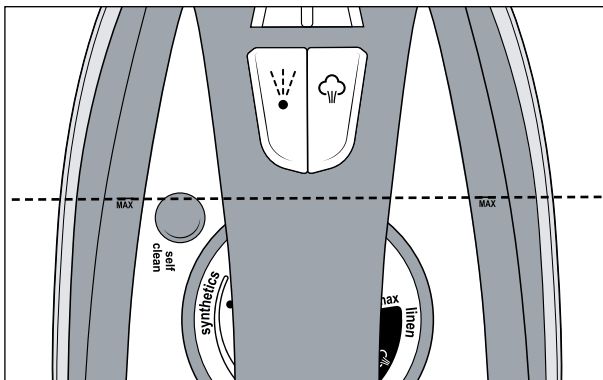

Fig. 1
- 3) Use the measuring cup **12** to fill the water tank  **2** up to no more than the **MAX** marking (see fig. 1).